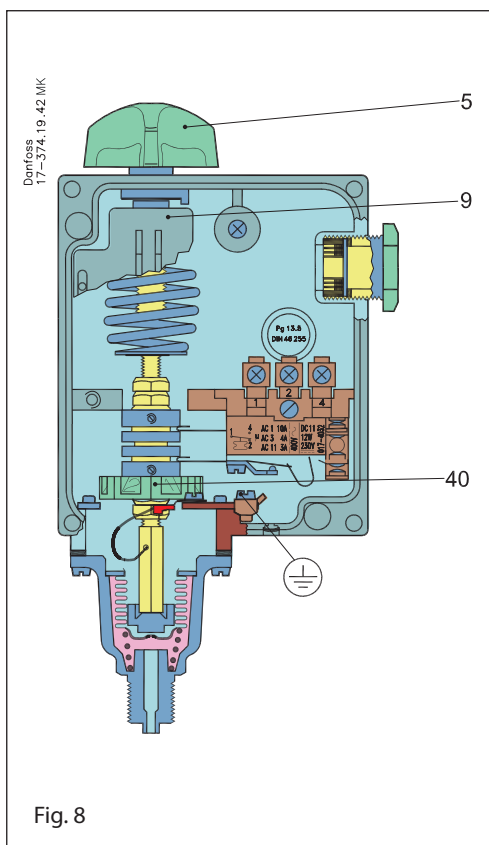
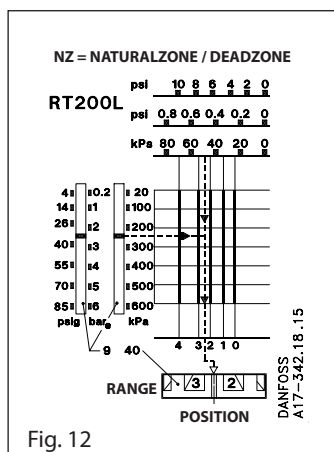

Fig. 8
Fig. 12
The range is set using the setting knob (5) fig. 8 while reading the range scale (9). The pressure set is the break pressure for contacts 1-4 (see fig. 13).
The RT 200L must be set using the setting knob (5) fig. 8 page 9 at 3.5 bar (35 m wg) minus the fixed differential of 0.2 bar.
The neutral zone, $35 - 32 = 3$ m wg, corresponding to 0.3 bar, must be set on the neutral zone disc (40) fig. 8 page 9. According to the diagram fig. 12 the disc setting is 1 or just over. A more accurate setting can be obtained by using the test setup shown in fig. 14.